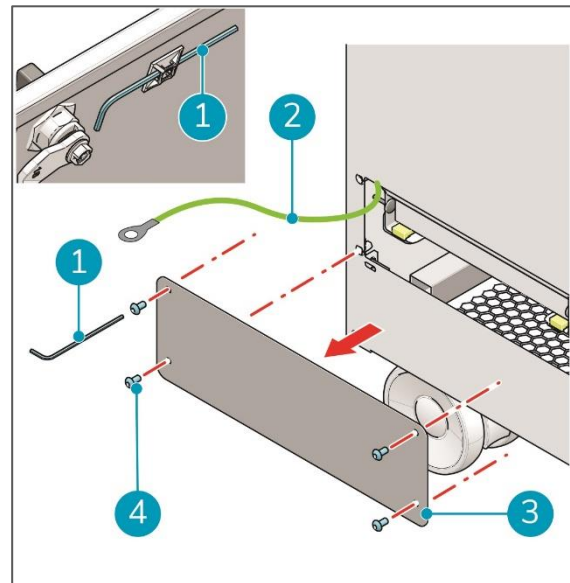

Figure 17
1. Unscrew the Allen screws (4x - Figure 17, pos.4) of the pre-filter compartment panel (Figure 17, pos. 3) with the provided 2.5mm Allen wrench (Figure 17, pos.1)
2. Remove the compartment panel (Figure 17, pos.3).
**NOTE:** There is a ground wire (Figure 17, pos. 2 ) connecting the compartment panel and the main i-air Pro unit. **DO NOT** disconnect it from the main i-air Pro unit.
10. **NOTE:** Make sure that the ground wire (Figure 17, pos. 2) is always connected to the compartment panel. If needed attach again.